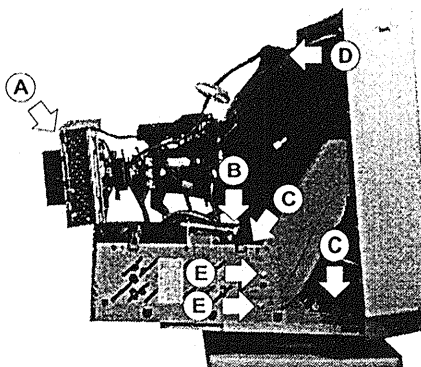

Figure 2-5 Remove the Neck Board (left side)
4. Disconnect the ground wire from the neck shield. Refer to the figure 2-5 (A).
5. Release the cord cramer from the FBT cover. Refer to the figure 2-5 (B).
6. Remove the two connected pins from the main board. Refer to the figure 2-5 (C).
7. Remove the anode cap from the CRT. Refer to the figure 2-5 (D).
2. Remove the two screws from the shield. Refer to the figure 2-5 (E).